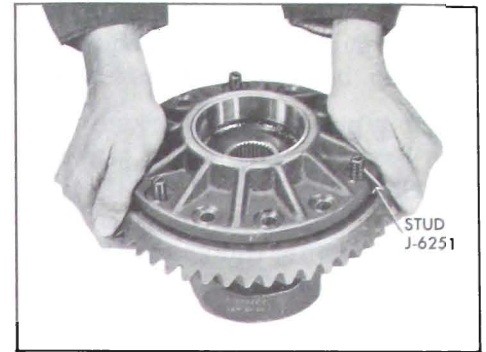

Fig. 6-76—Installing Ring Gear on Differential Case
4. After making sure that mating surfaces of case and ring gear are clean and free of burrs, bolt ring gear to case using three Studs J-6251 to align parts. See Figure 6-76. If same ring gear and case are used, line up marks so they are assembled in same relative positions.
1. If ring gear was removed, install ring gear on case flange using three Studs J-6251 as shown in Figure 6-76.